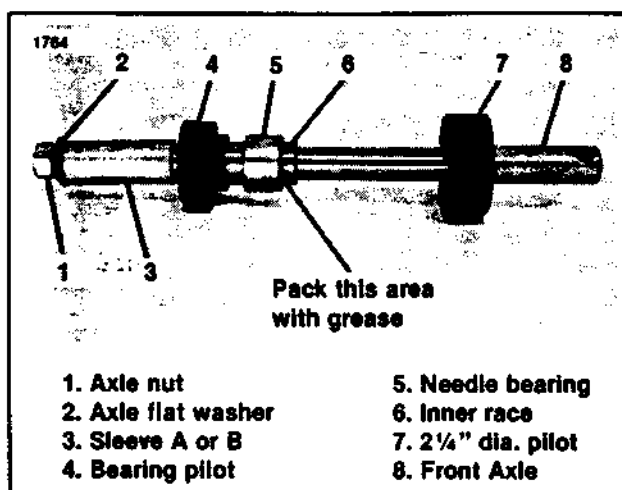

Figure 1. Front & Rear Wheel Bearing Installation
3. Place the 2 1/4" diameter pilot from the tool on the axle with the knurled side of the pilot against the head of the axle as shown in Figure 1. Insert the axle into the side of the wheel opposite the valve stem with the collar inside the counterbore of the wheel hub.
4. Lightly coat the outside diameter of the new INNER RACE, Part No. 41118-81, with the special grease and insert it into cavity of the bearing pilot of the tool as shown in Figure 1. Pack the new NEEDLE BEARING, Part No. 9116, with the special grease and install it over the inner race with the lettered side facing the bearing pilot. See Figure 1. Place a ridge of grease around the edge of the bearing as shown.
5. See Figure 1. Place this assembly on the axle followed by sleeve A, the axle flat washer and the axle nut. Tighten the nut until it bottoms on the axle threads.